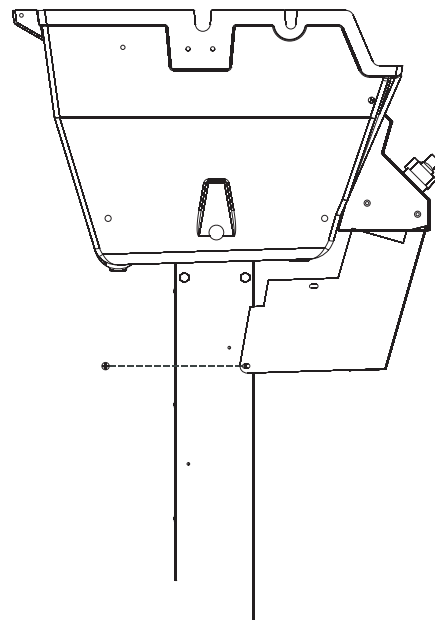

FIGURE 4
Attach the control housing (6) using two #8 x 1/2" Phillips Truss Screws or two Plastic Panel Fasteners as shown in Figure 4.